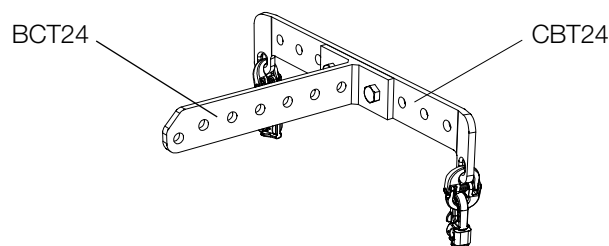

Figure 3.8 - Mounting BCT24 Rigging adapter at CBT24 cradle bar for flying
3.5 Mounting direction CBT24 cradle bar for flying at T24(N) loudspeaker
Mount the CBT24 cradle bar for flying to the T24(N) loudspeaker as shown in figure 3.8.
Mount the BCT24 rigging adapter to the CBT24 cradle bar for flying using both bolts and nuts as shown in Figure 3.8.